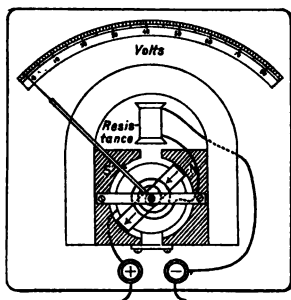

FIG. 248. — Voltmeter.
**285. The voltmeter.** The commercial **voltmeter** is simply a *high-resistance galvanometer*. When electromotive force is applied to a galvanometer, the current it allows to pass is proportional to the voltage, and so the scale can be graduated to read the voltage directly. The instrument (Fig. 248) is usually a moving coil galvanometer, like an ammeter. Indeed the same instrument is often used for both purposes. A voltmeter does not have a shunt between its terminals,